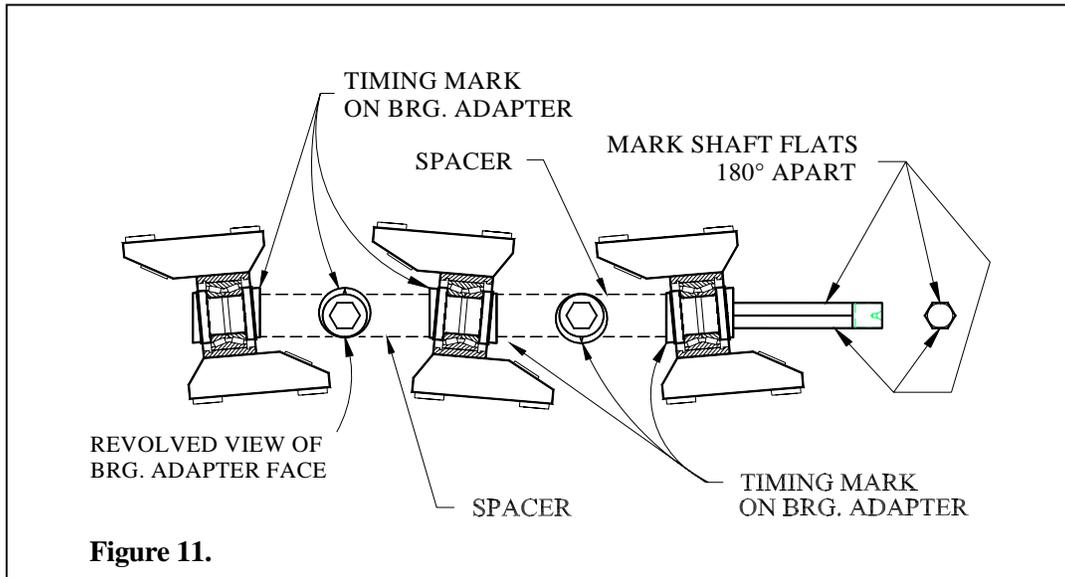

Figure 11.
2. Use marker pen to assist with aligning timing marks between rotors. Mark two rotor shaft flats 180 degrees apart next to the threaded end (See Figure 11). The marked flats would have to align with the timing marks on any rotors not removed during servicing.
3. Install the required components in the sequence shown in Figure 11, double checking the timing mark locations and spacer lengths (see following table) as each rotor is installed.